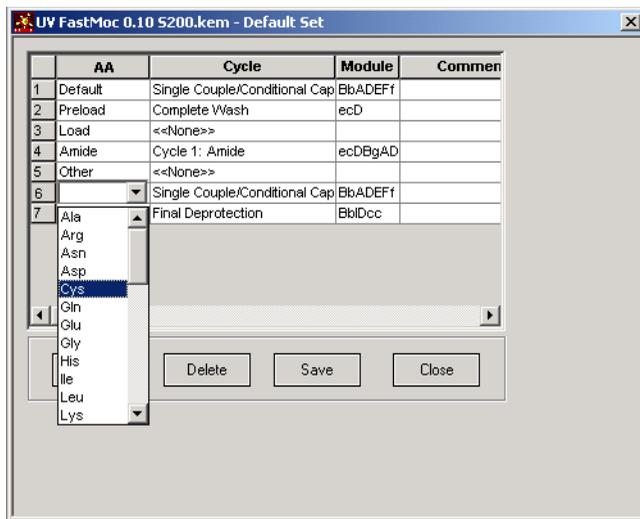

Figure 7-26 Selecting an Amino Acid.
3. Select an amino acid from the drop-down list (Figure 7-26).